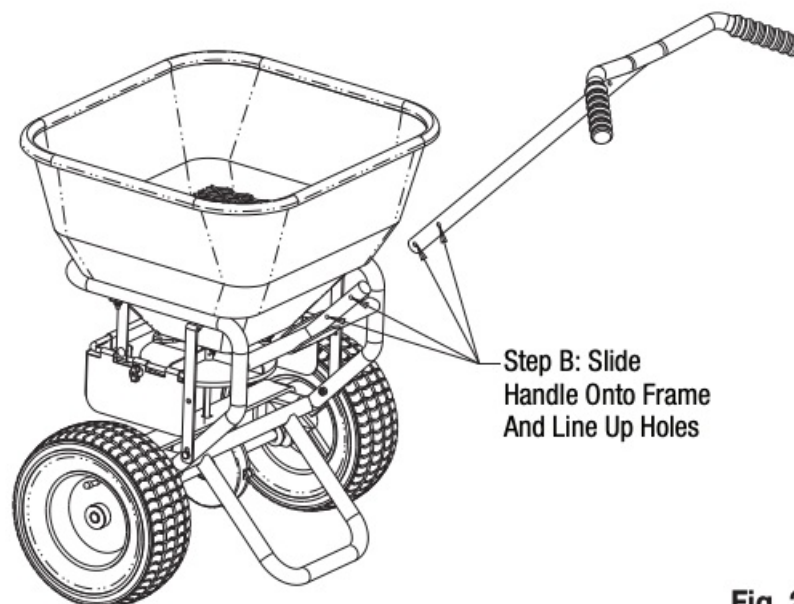

Fig. 2
1.2 Attaching the Handle, Linkage Plate Assembly, and Lower Linkage – Figures 2 – 5
Attaching the Handle, Linkage Plate Assembly, and Lower Linkage – Figures 2 – 5